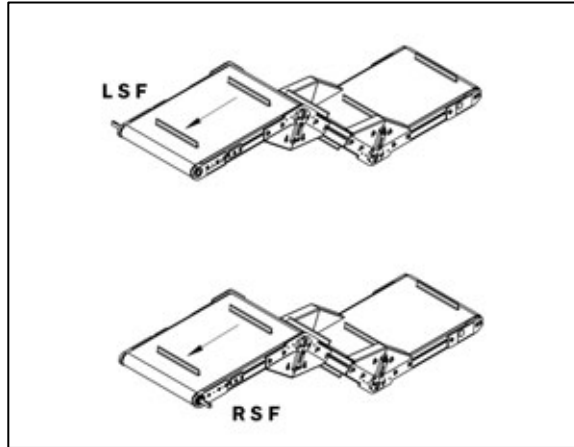

Figure 1
a. Set the conveyor in its operating position, taking care to note its drive location. AS40Z Series conveyors are assembled with the drive pulling as standard, determined by the two drive positions available: LSF or RSF (Figure 1).